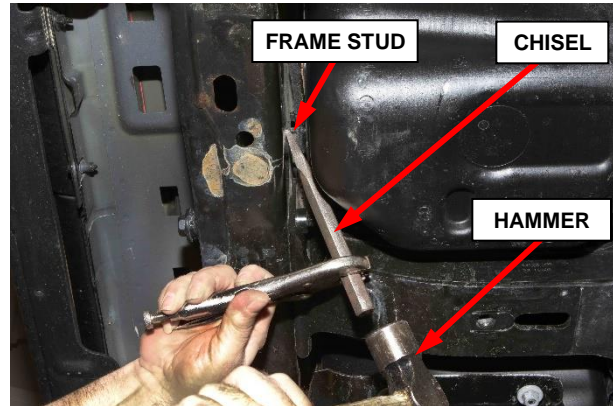

Figure 7 – Remove Frame Stud
1. Using a suitable chisel and hammer, cut the stud off as close to the frame as possible (Figure 7).